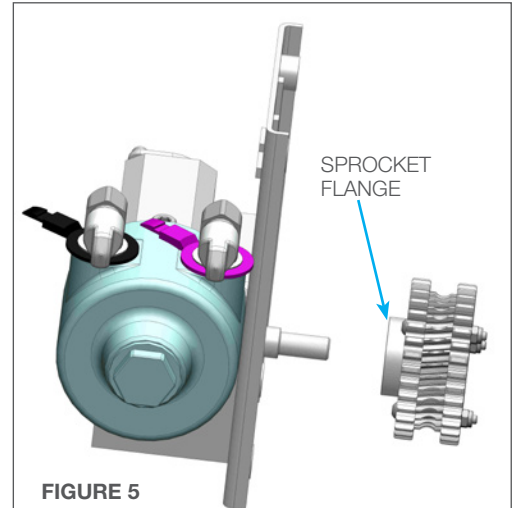

FIGURE 5
5. Thread them in until the Sprocket Flange within the Drive Gear Releases the Sprocket Pack. **(Figure 5)**
5. Install the Helix Hose End onto the Gearpack and through the Back Out Preventer. Slide the Follow Gear down onto the Helix Hose. **(Figure 5)** Ensure the gears on both Sprocket Packs engage the Helix Hose **(Figure 5.1)** and the Back Washer indicates the appropriate hose size in the 12-O'Clock position and before tightening the 3/8" Bolt. **(Figure 5.2)**